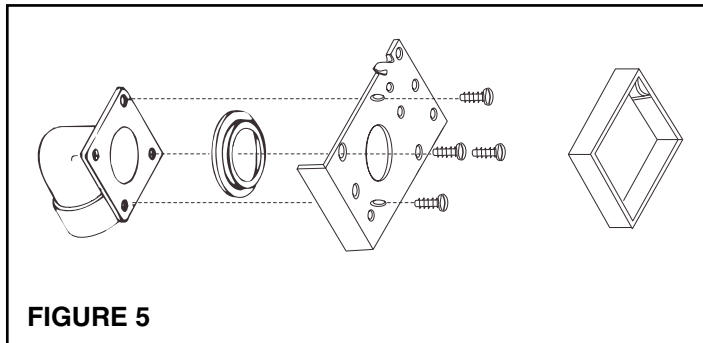

FIGURE 5
4. **Refer to Figure 5.** Model 329 for use with 330 inlets. Remove cardboard from plaster guard frame. Using four (4) provided screws, attach the appropriate flanged fitting and inlet seal to back of inlet.